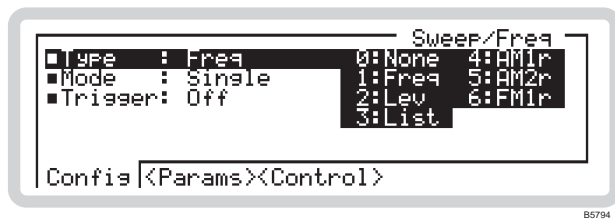
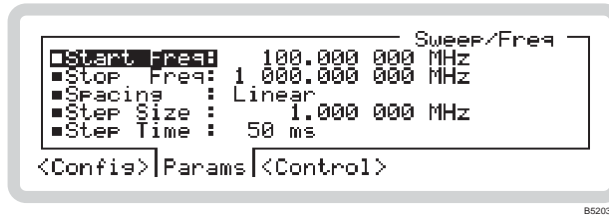
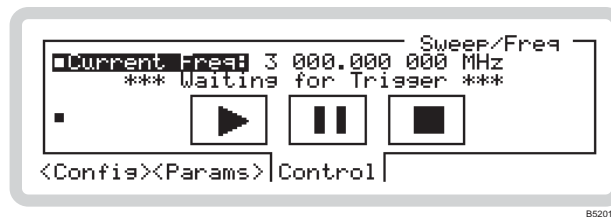

Fig. 3-78 Main sweep
Fig. 3-79 Sweep parameter selection
Fig. 3-80 Sweep control
Press  to see the main sweep screen (Fig. 3-78), from which you can set up all aspects of the instrument's sweep operation.
- 0** *Off* External trigger is disabled. Control the triggering manually using the sweep control screen of Fig. 3-80.
From the sweep menu of Fig. 3-78, touch <Params> or press **<TAB>** to display the parameter selection screen (Fig. 3-79).
From the sweep menu of Fig. 3-78, touch <Control> or press (TAB) to display the sweep control screen (Fig. 3-80).